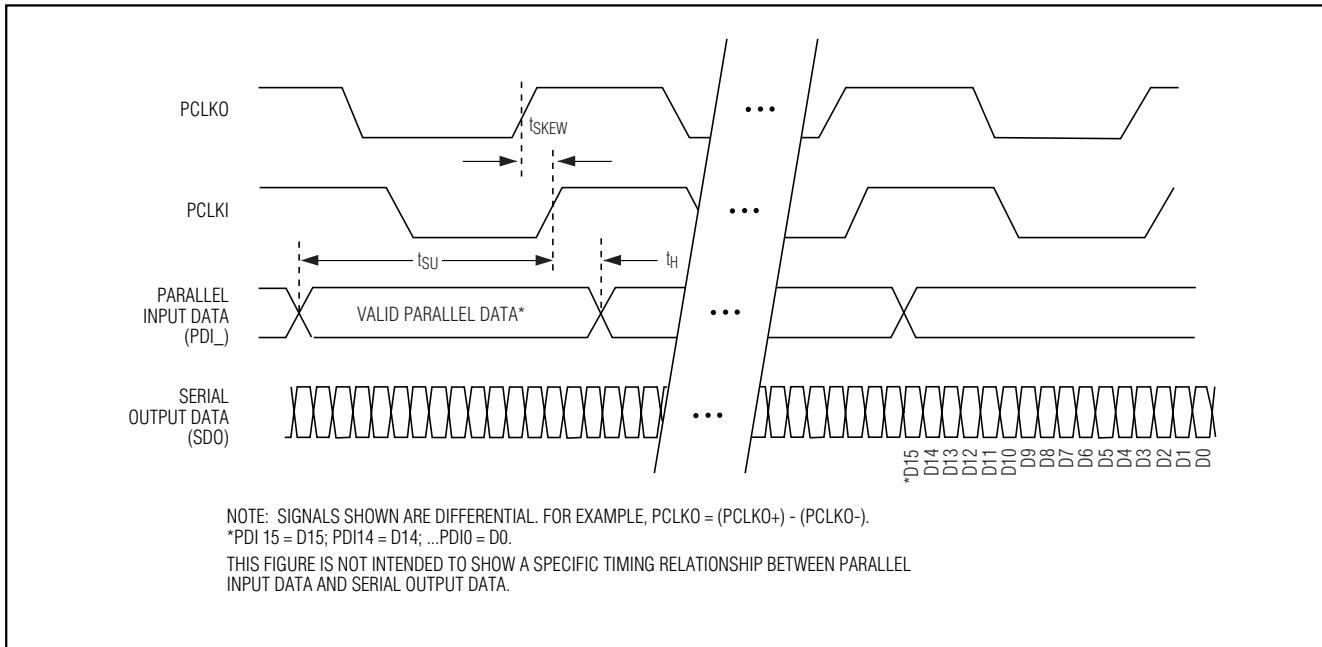

Figure 2. Timing Diagram
**Note 2:** Setup and hold times are relative to the rising edge of PCLKI+, measured by applying a 155.52MHz differential parallel clock with rise/fall time = 1ns (20% to 80%). See Figure 2.
(tSKEW) that is defined with respect to the parallel-clock-output signal (PCLKO). PCLKO is the synthesized 2.5Gbps internal serial-clock signal divided by 16. The allowable PCLKO-to-PCLKI skew is 0 to +4ns. This defines a timing window after the PCLKO rising edge, during which a PCLKI rising edge may occur (Figure 2).